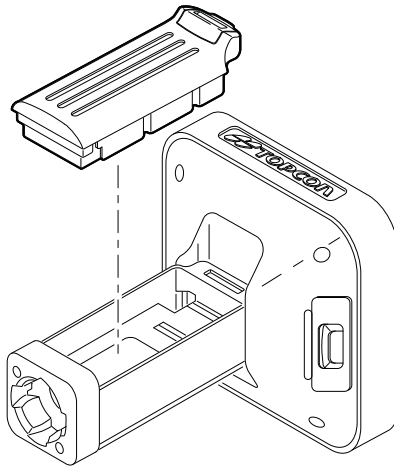

Figure 2-12. Insert the GR-5 Batteries
To attach the batteries to the GR-5 (Figure 2-12):
4. Insert the AA battery shell into the battery compartment of the receiver as shown in “To attach the batteries to the GR-5 (Figure 2-12):” on page 2-16.